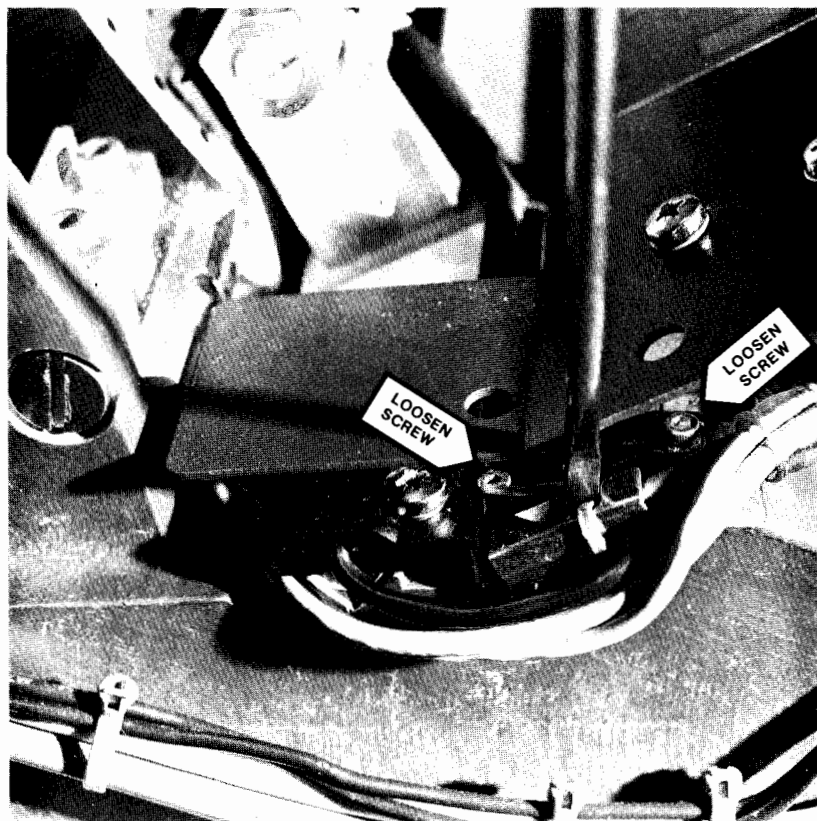

Figure 15. Position Transducer Adjustment
- d. Loosen the screws which secure the transducer assembly to the casting. If the LED does not illuminate when the corebar is at rest, move the transducer assembly to the right until the LED illuminates. Conversely, if the LED is illuminated when the corebar is stationary, shift the transducer assembly to the left until the LED extinguishes. See figure 15.